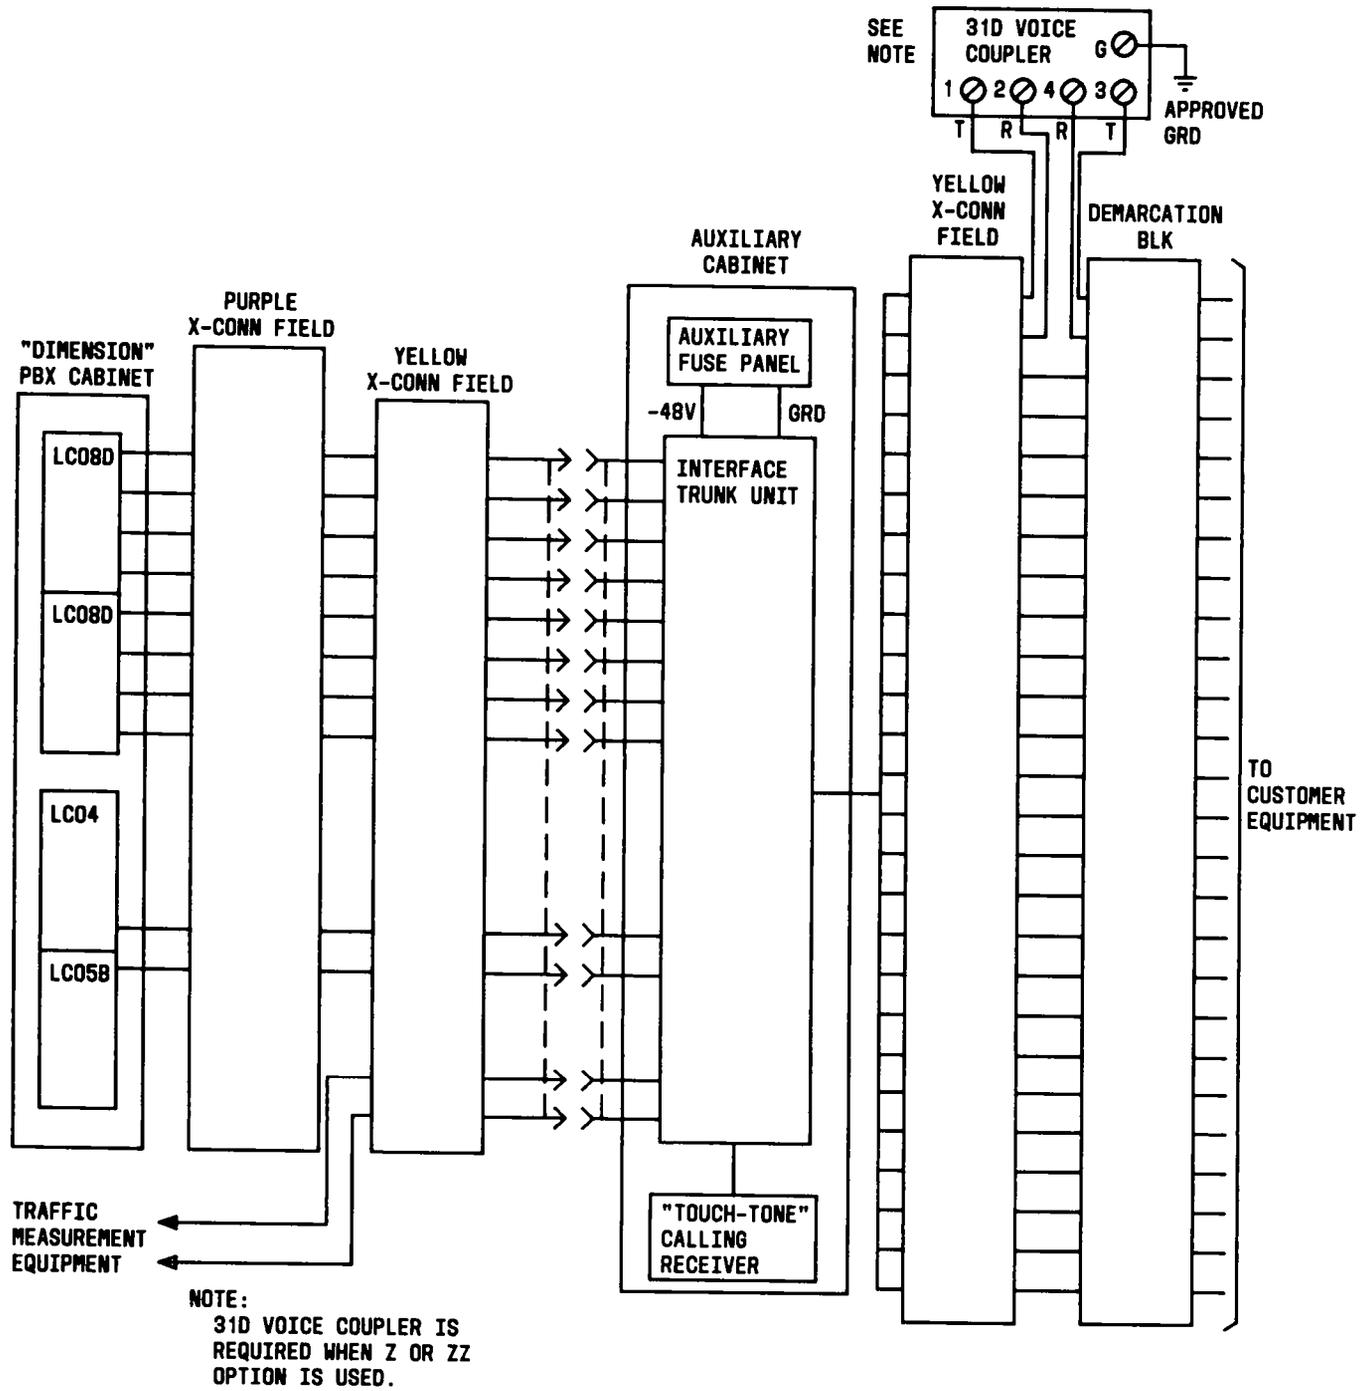

Fig. 39—Functional Diagram of Radio Paging Access Connections
6.61 A functional diagram of the radio paging access connections is shown in Fig. 39.